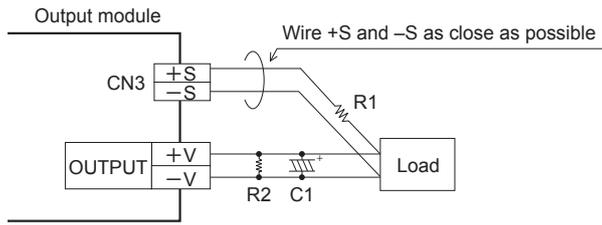

Fig. 3.6 Use example of remote sensing
■Please see Fig.3.6 if you use the remote sensing function.
When the output voltage is unstable, C1, R1, R2 in Fig. 3.6 will be effective.